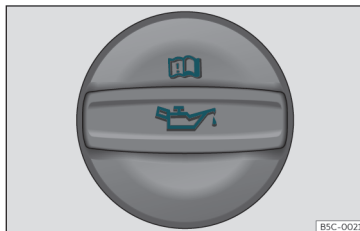

Fig. 205 In the engine compartment: Engine oil filler cap.
- Unscrew cap from engine oil filler opening »» **Fig. 205**.